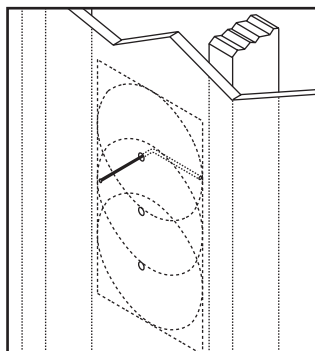

Figure 13. Using a coat hanger to check for obstructions behind the wall loudspeaker site.
3. *Cut a foot-long piece of coat hanger and bend it to create a right angle. Poke the "L-shaped" wire into the pilot hole and turn it in a complete circle, as shown in **Figure 13**.*